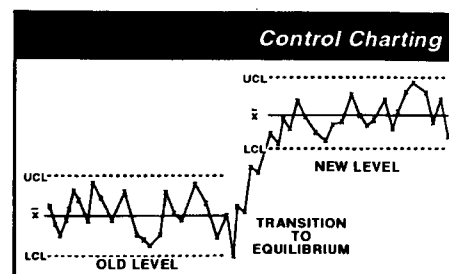

Figure 10
(6) **Assure Results and Control the Process:** The use of control charts / SPC enables the plant to confirm over time the improvements expected based on the short-term evaluation and subsequent filter media selection (an example for index cycle times is shown in Figure 10). The control chart becomes a tool for on-going monitoring, troubleshooting and controlling the filtration process. This process data also becomes a baseline for future evaluations as part of the continual improvement of manufacturing quality, productivity, and cost position.